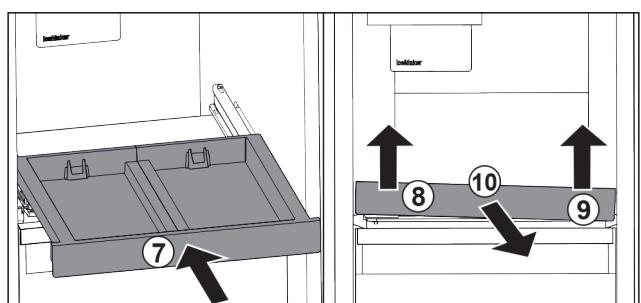

Fig. 101
- ▶ Slide in the pull-out board. Fig. 101 (7)
- ▶ Lift the pull-out board on the front left. Fig. 101 (8)
- ▶ Lift the pull-out board on the front right. Fig. 101 (9)
- ▶ Take out the pull-out board to the front. Fig. 101 (10)